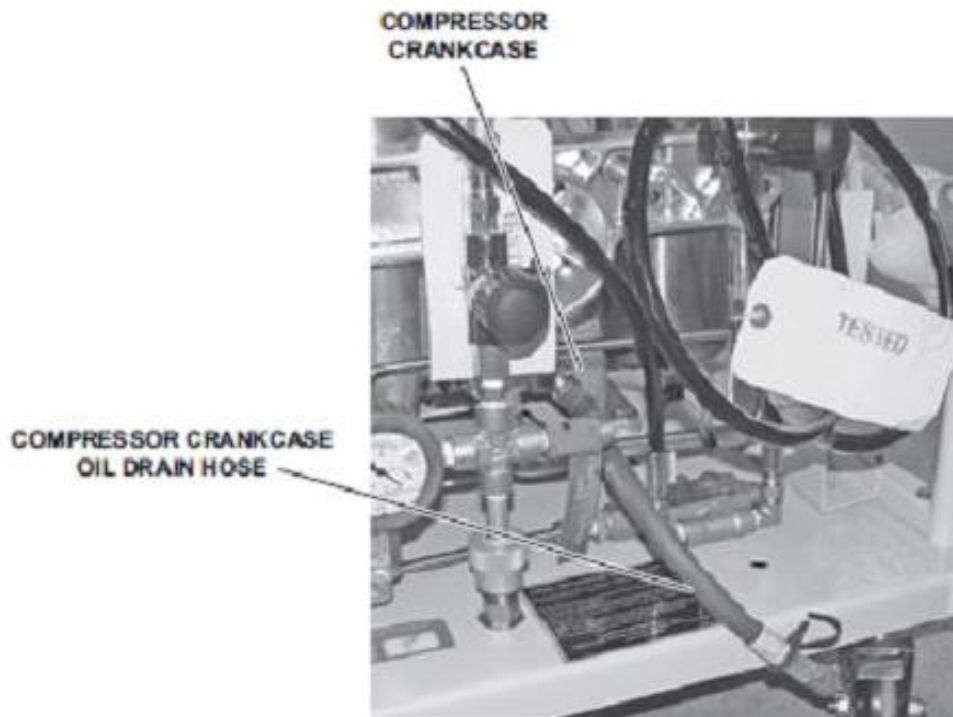

Figure 551-8ST-1004\_46 (Compressor Crankcase)
- (c) Inspect the drained compressor crankcase oil for metallic particles. (Figure 551-8ST-1004\_46)